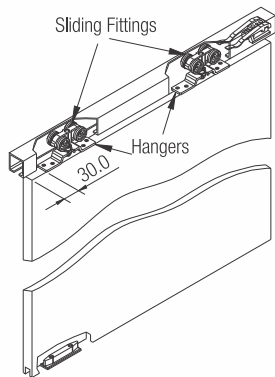

Fig.1
1. Standard model is provided with hangers (2 Nos.) which are fitted at the top of the door (Refer Fig. 1).